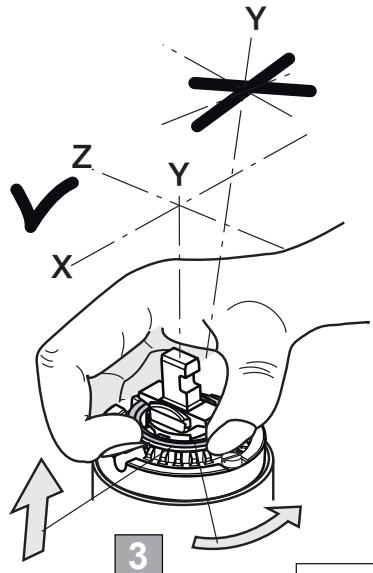

Fig.8b
5. Relocate the red temperature limiting ring on the new cartridge to the same position as the old cartridge. See figs 8b & 8d.